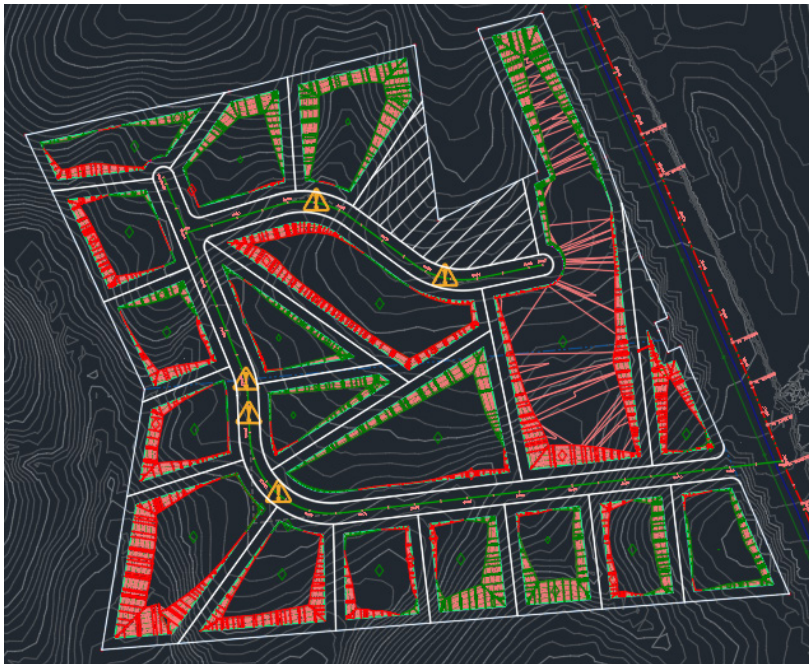

Figure 2.22 – Example of a design using the Land Development toolbelt
- The Land Development toolbelt primarily focuses on foundational site design components, involving the creation and management of parcels and sites and the application of grading tools. These tools are essential for establishing the foundation and groundwork of a residential subdivision design (refer to *Figure 2.22*).